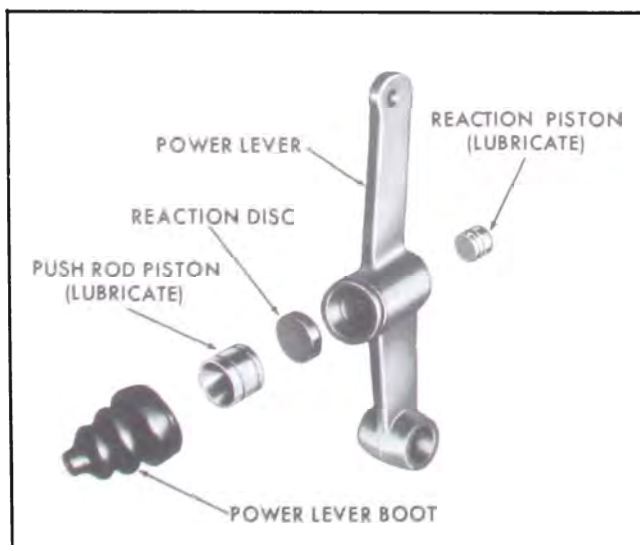

Figure 9-38—Reassembling Power Lever Assembly
2. Reassemble the reaction disc, push rod piston, boot, and reaction piston into the power lever. Lubricate the push rod piston and reaction piston with lubriplate. Figure 9-38.